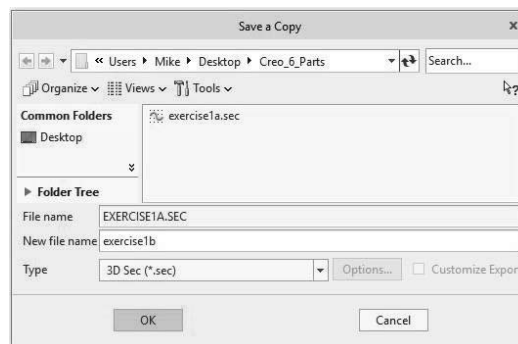

Figure 3-59 Save As “exercise1b (*.sec)”
Step 23: In the New Name area, type “exercise1b”, then *pick* **OK**. Do not change the model name. See Figure 3-59.